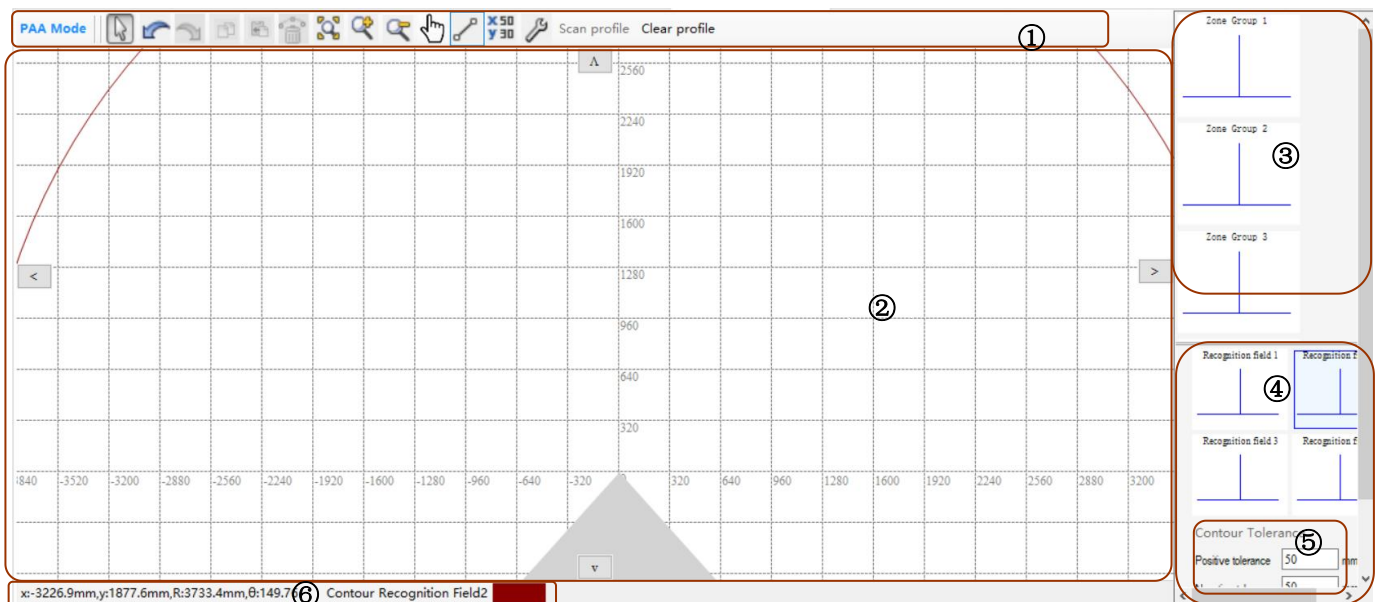

Figure2.6.5.1 Zone settings tab
The tab “Zone Settings” includes: ①-Zone edit toolbar, ②- Drawing area, ③-Zone group list, ④- Contour recognition area, ⑤- Contour tolerance, ⑥- Status bar, as shown in Fig. 2.6.5.1.